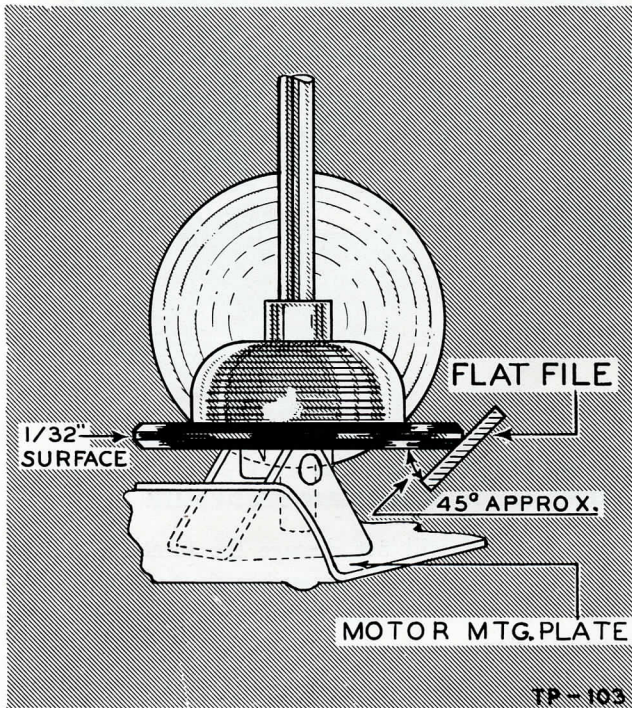

FIGURE 17. POSITION OF FILE FOR DRESSING BEVEL
30. Dress the top and bottom edges of the tire, holding the file at an angle, as shown in figure 17. Remove enough of the rubber to leave $1/32''$ flat surface on edge of the tire.